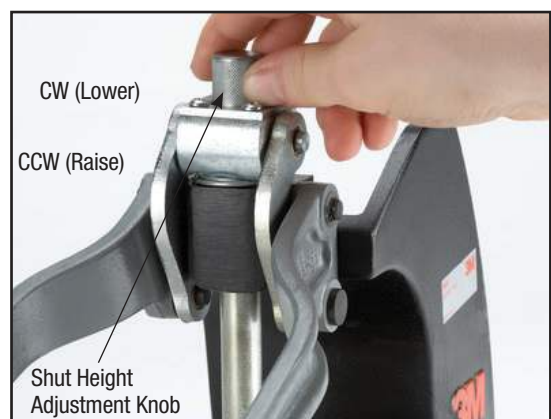

Figure 3b
- With the Presses 3316 and 3640 Presses, turn the shut height adjustment knob until the bottom of the press shaft contacts the desired position on the shut height gauge. (See Figure 3b)